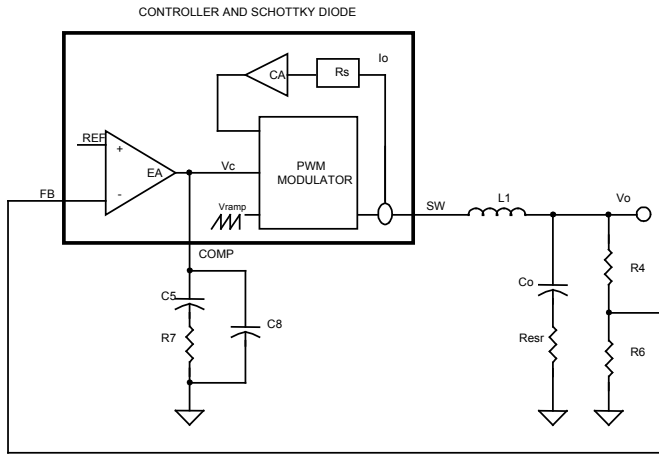

Figure 7. Block diagram of control loops
The goal of compensation is to shape the frequency response of the converter so as to achieve high DC accuracy and fast transient response while maintaining loop stability (see Figure 7).
The block diagram in Figure 7 shows the control loops of a buck converter with the SC4525C. The inner loop (current loop) consists of a current sensing resistor ($R_s=3.53\text{m}\Omega$) and a current amplifier (CA) with gain ($G_{CA}=18.5$). The outer loop (voltage loop) consists of an error amplifier (EA), a PWM modulator, and a LC filter.
For a converter with switching frequency F_{sw} , output inductance L_1 , output capacitance C_o and loading R , the control (V_c) to output (V_o) transfer function in Figure 7 is given by: